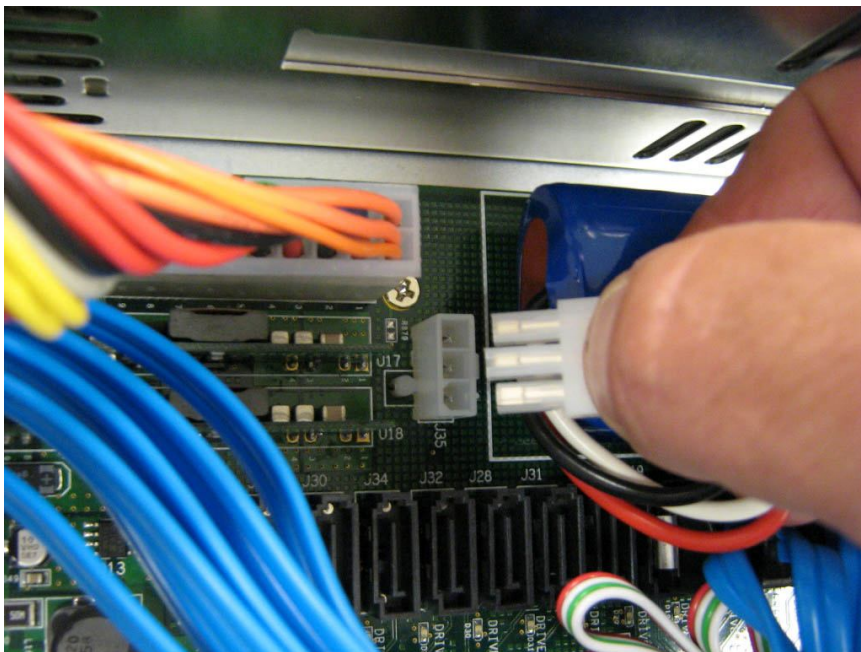

Figure A-3 Align the Battery Plug with Connector J35
3. Align the battery plug with connector J35 as shown in Figure A-3 and insert it fully into the socket.